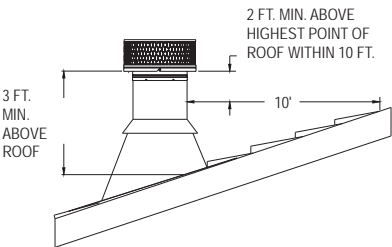
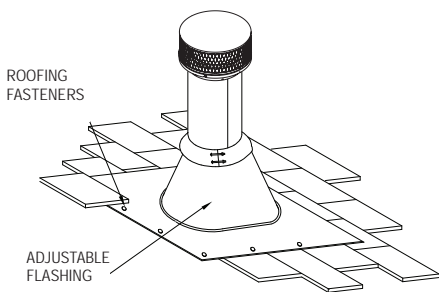

Figure 1
Figure 12
The National Fire Protection Association Standard #211 states: "Chimneys shall extend at least three feet above the highest point where it passes through the roof of a building, and at least two feet higher than any portion of a building within ten feet." (*Fig 1*) 10"-16" diameter DuraTech Chimney may be installed up to 40 feet high when using a Support Box, and up to 30 feet high when using a Tee Support. DuraTech in 18"-24" diameters is intended to be mounted directly to an appliance or masonry fireplace, and is limited in height by the allowable weight of the supporting surface, up to a maximum of 60-ft. If the chimney extends more than 4 feet above the roof, an Extended Roof Bracket must be used. Due to the overlap of the joints, subtract 3/4" from each Chimney Section's height to calculate installed height.
remains vertical (use a level), and that at least a 2-inch clearance to combustible materials is maintained all around. Install the upper edge of the Flashing under the roofing. Nail to the roof along the upper edge and down each side with 1-inch roofing nails. Do not nail the lower edge of the Flashing (*Fig 12*). Be sure to follow local building practices, as needed. Seal all nail heads with a non-hardening waterproof sealant. On flat or tarred and graveled roofs, nail and seal the Flat Roof Flashing to the roof on all sides with roofing compound. Do not put screws through the Flashing into the Chimney Pipe.
11. Finish Top: Apply a non-hardening waterproof sealant around the chimney at the point where the Storm Collar will meet the chimney just above the Flashing, and also along the vertical seam of the chimney pipe, where it is exposed to the weather (*Figures 12 and 13*). Slide the Storm Collar down over the chimney to the top of the Flashing. Tighten the bolts of the Storm Collar and seal the Storm Collar against the sealant. After installing sufficient Chimney Sections to meet the height requirement as shown in *Figure 1*, attach the Chimney Cap onto the top of